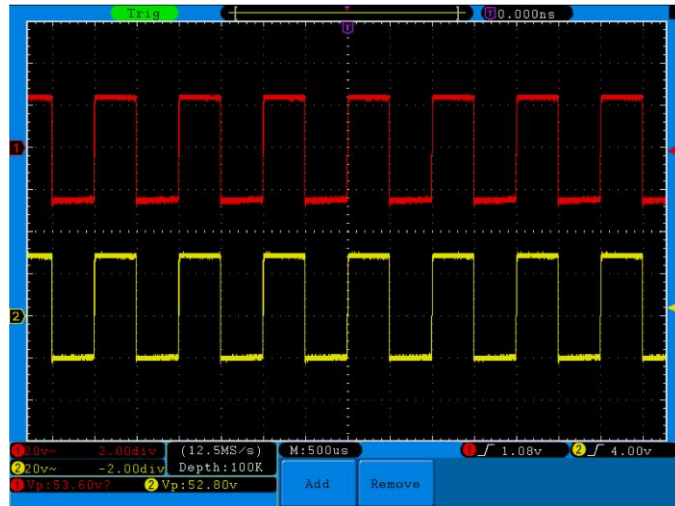

Fig. 80 Waveform of Gain Measurement
8. Read the peak-to-peak voltages of Channel 1 and Channel 2 from the bottom left of the screen (See **Fig. 80**).